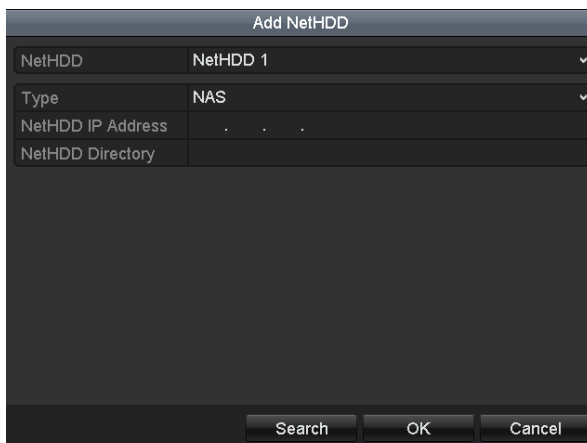

Figure 12. 13 HDD Information Interface
2. Click the **Add** button to enter the Add NetHDD interface, as shown in Figure 12. 13.